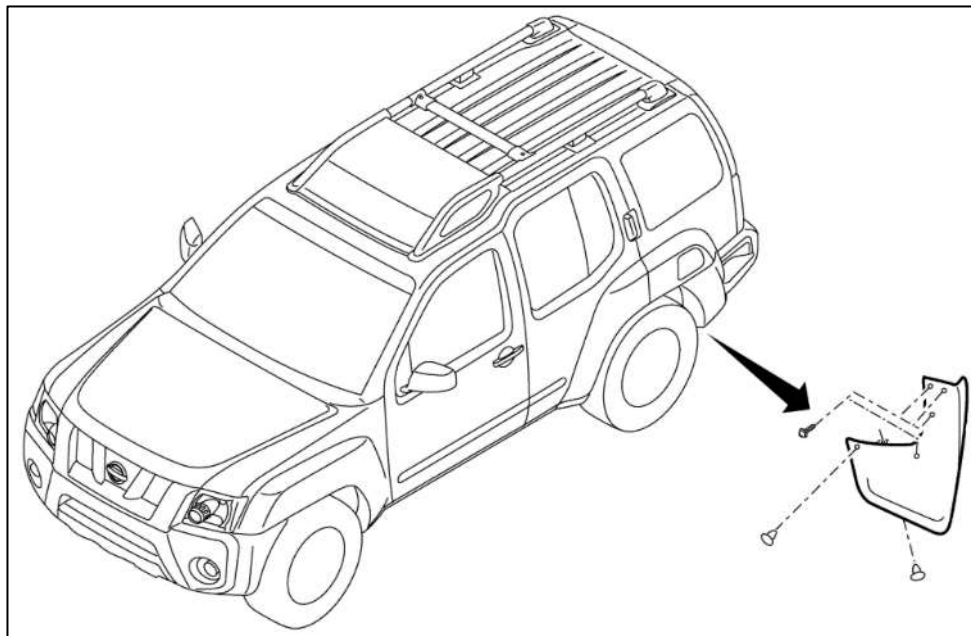

Figure 13
18. Remove Mud Guards in front of the Rear Wheels, secured by (3) three screws. This will give you access to (2) two of the Body to Frame mounting points. *Figure 13.*